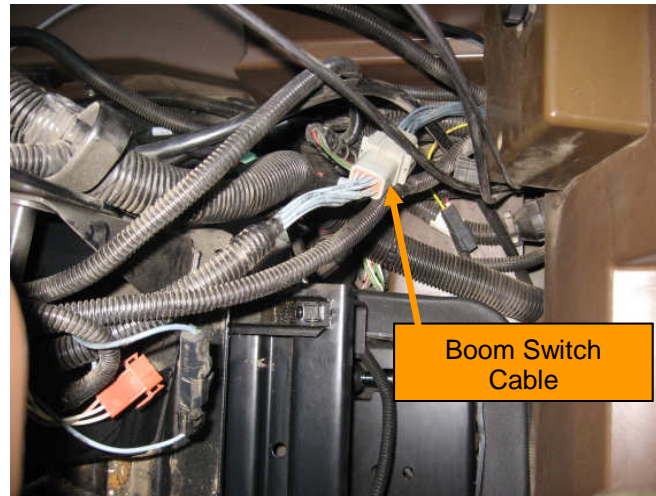

Fig. 1 Boom switch cable
1. Locate the boom switch cable behind the right armrest. (Fig. 1) This cable is a rectangular 8 pin connector located just behind the seat (Fig.1).